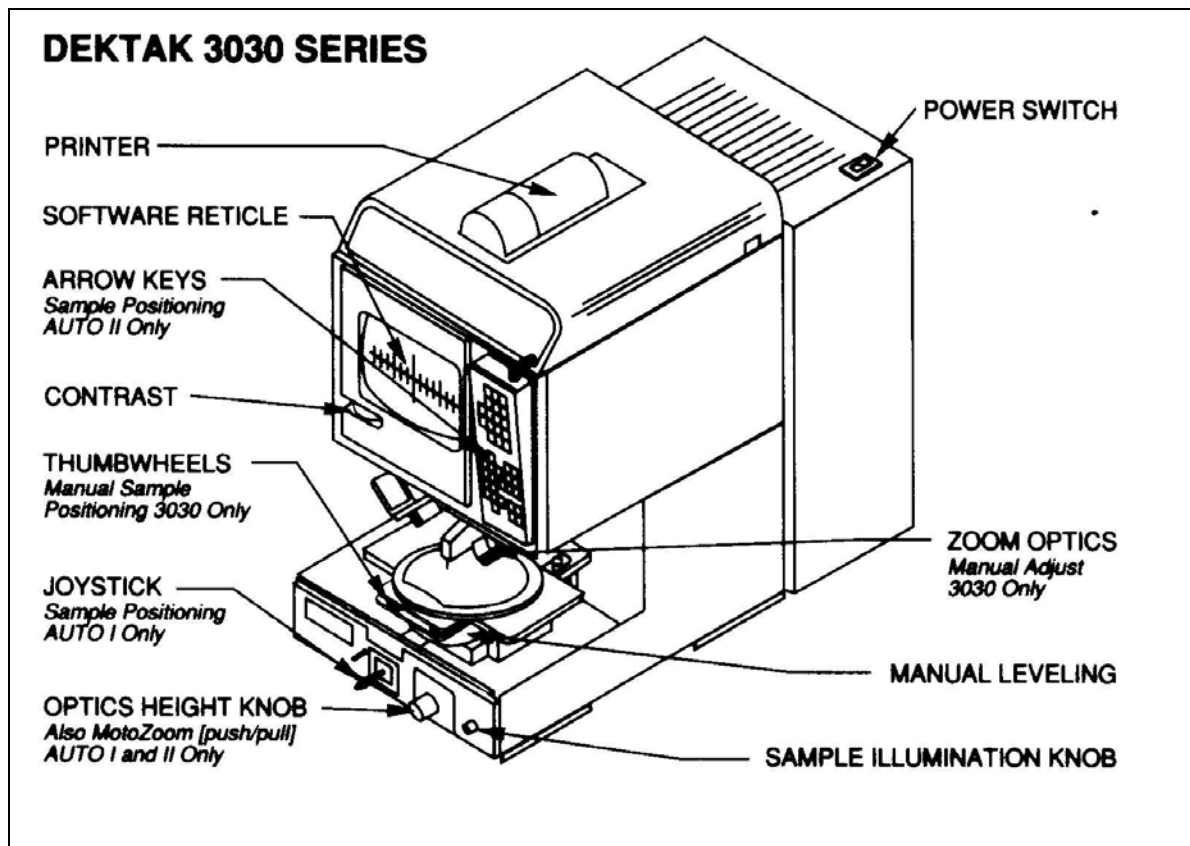

Figure 11.1
- 9.1.2 Push POWER SWITCH on top (Figure 11.1) to turn the power on.